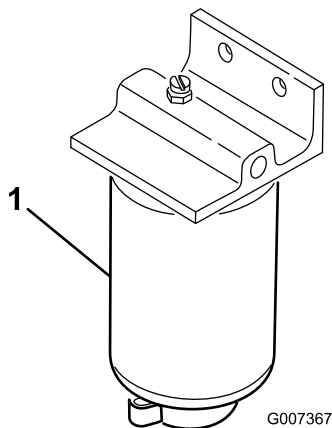

Figure 38
1. Place a clean container under the fuel filter (Figure 38).
2. Clean the area where the filter canister mounts (Figure 38).